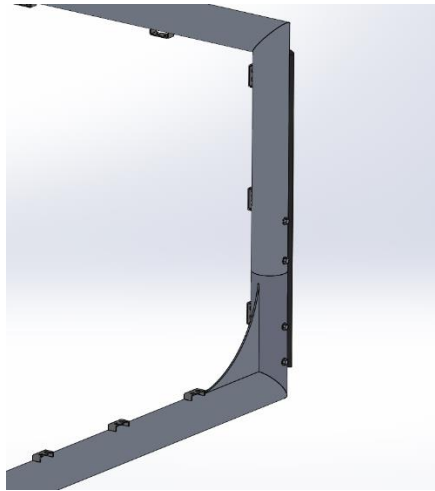

Figure 5A
5. With the goal in the same position, slide the ground bar over the lower stubs on both sides. Attach the ground bar to those stubs using (2) 3/8"-16x1" serrated hex bolts per side (Figs. 5A & 5B). **Note: Do not tighten hardware until all bolts are in place.** Repeat for opposite side.